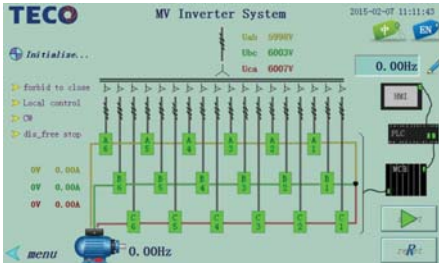

Fig.4
- Monitor & Control for Operational Status (Fig.4)